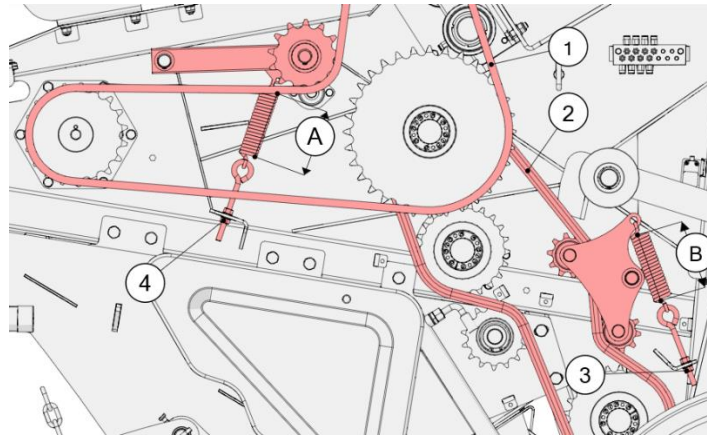

Figure 56. chain-tensioning
- To adjust the chains in the baling chamber (1) and (2), turn the tensioner's nuts (3) and (4), as shown in Figure 56, and adjust their distances according to the following values: